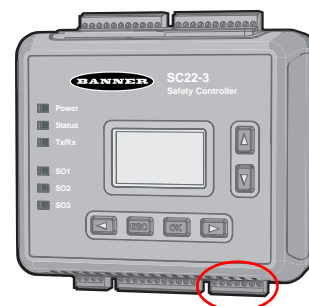

Figure 25 Safety Output Terminal Block
- 2) ☐ Referring to figure 25 on page 69, verify that 7-pin connector is unplugged from SC22-3 *Safety Controller* to ensure that *Safety Outputs* SO1 (A and B), SO2 (A and B) and SO3 (A and B) are not connected to machine.